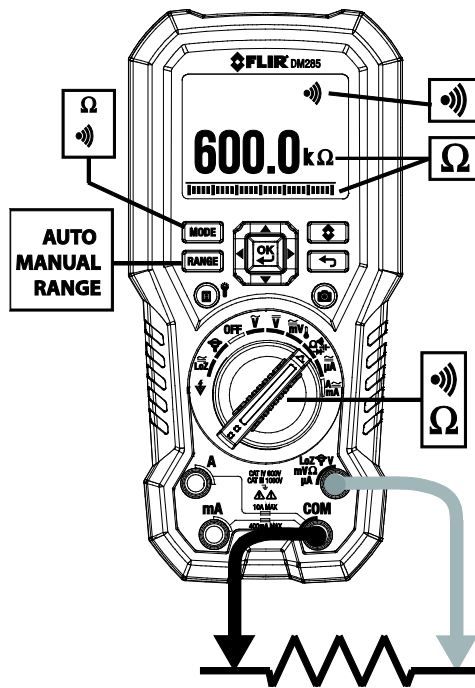

Fig. 9-3 Resistance and Continuity Measurements
1. Refer to **Fig. 9-3**. Set the function switch to the  position.
1. Refer to **Fig. 9-3**. Set the function switch to the Ω position.